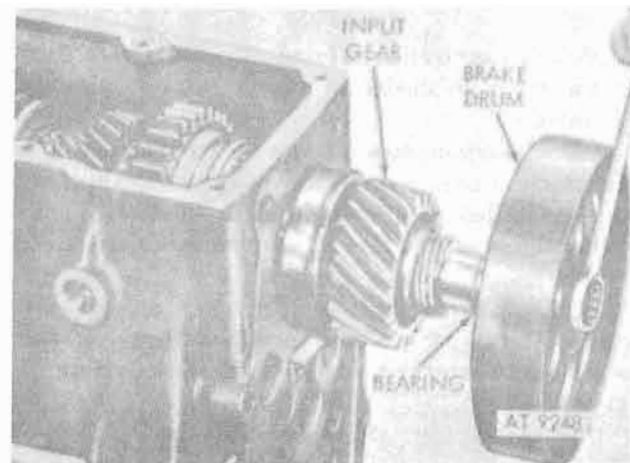

Figure 8-115. Pressing input gear, speedometer gear and bearing race on input shaft.
i. Position transfer input gear spacer, speedometer gear, and bearing race on output shaft and press parts on shaft, using brakedrum and bolt (fig. 8-115).